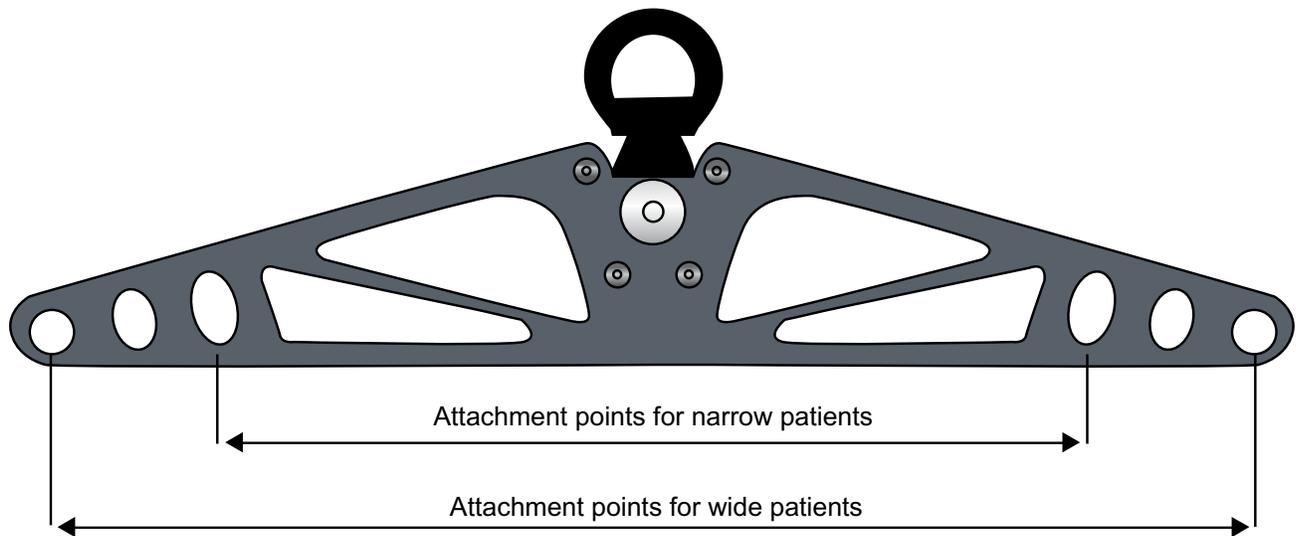

Figure 5-5: Spreader Bar attachment points
3. The spreader bar provides three attachment points to attach a patient harness. The selection of the attachment point depends on the width of the patient. Connect the patient harness to the outermost attachment points for wide patients, and to the innermost points for narrow patients. See Figure 5-5.